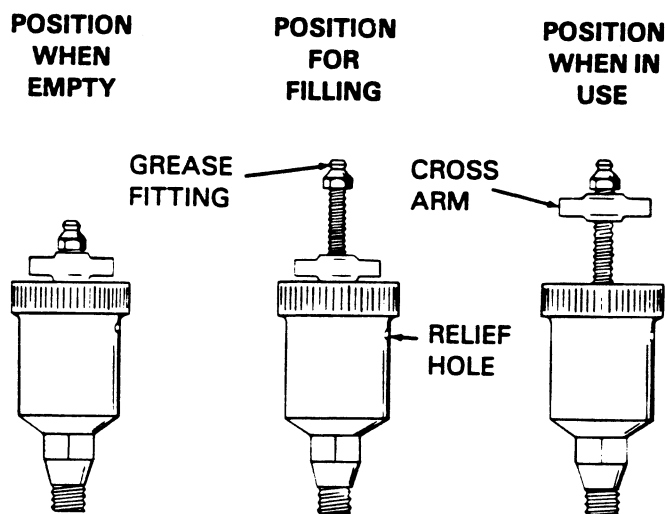

Figure 4. Automatic Lubricating Grease Cup
Before attempting to remove the impeller (2), turn the cross arm on the automatic lubricating grease cup (13) clockwise until it rests against the cover (see Figure 4). This will prevent the grease in the cup from escaping when the impeller is removed.
Fill the grease cup (13) through the grease fitting with No. 2 lithium base grease until grease escapes from the relief hole. Turn the grease cup arm counterclockwise until it is at the top of the stem; this will release the spring to apply grease to the seal (see Figure 4).